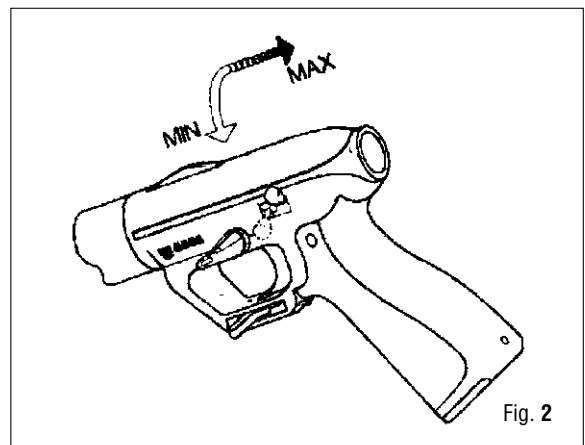

Fig. 2
3. Set the power adjustment lever (38) to maximum "high" power position (Fig. 2).